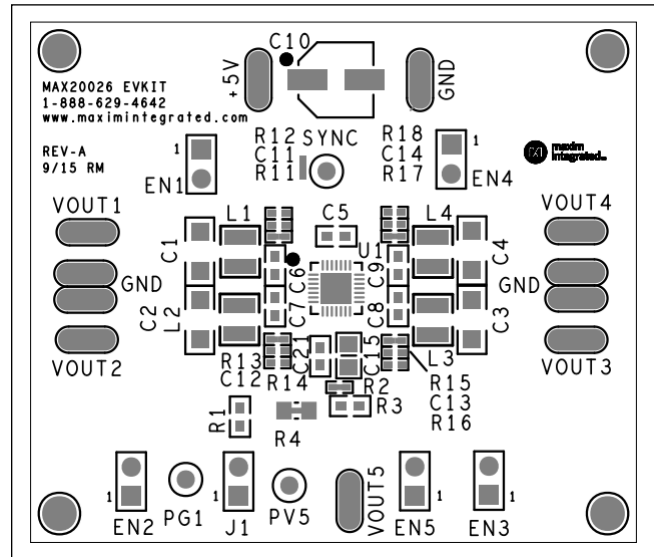

Figure 6. Component Placement
- 5) See Figure 6 for component placement. Input capacitors, C_{IN}, (C6, C7, C8, and C9) are placed near the IC. The VA capacitor (C5) is placed next to the IC at pins 24 and 26. Inductors (L1, L2, L3, and L4) are placed next to the input capacitors. Output capacitors (C1, C, C3, and C4) are next to the inductors. These placements ensure short traces for power and grounding.